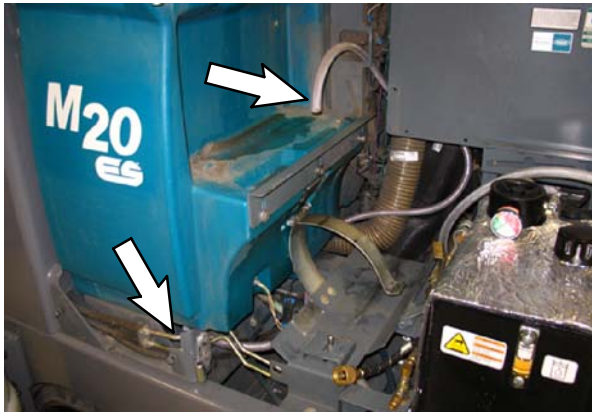

FIG. 8
17. Route the 54" PVC hose from the bottom of the solution tank and up into the operator compartment. Refer to Fig. 8.